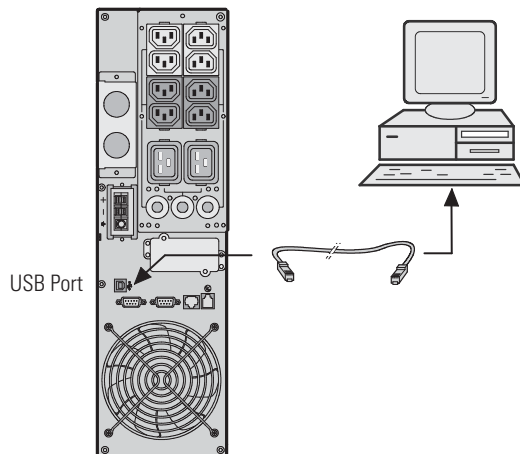

Figure 31. USB Port
1. The USB port is hot-pluggable. Connect the USB cable to the USB port on the UPS rear panel (see Figure 31).